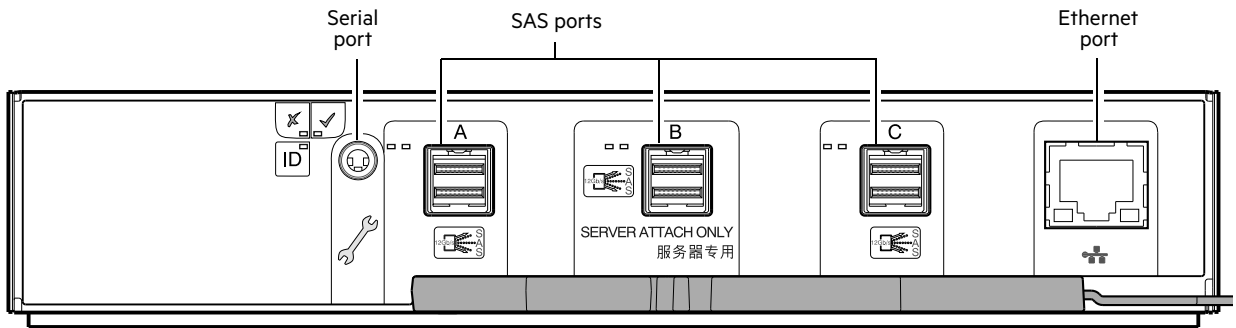

Figure 16 Expansion module detail (J1212/J1224/J1284)
Figure 16 shows the IOM used in supported expansion enclosures for adding storage. Ports A/B/C ship configured with 12Gb/s HD mini-SAS (SFF-8644) external connectors.
- When the expansion module shown above (Figure 16) is used with 5005/4005/3005 Series controller modules for adding storage, its middle HD mini-SAS expansion port (“B”) is disabled by the firmware. See also Figure 51 (page 60).
The 5U84 expansion enclosure uses the same IOM used by 2U12 and 2U24 enclosures. See “Expansion module” (page 27). See also Figure 16 (page 27) and the **IMPORTANT** entry on page 27.